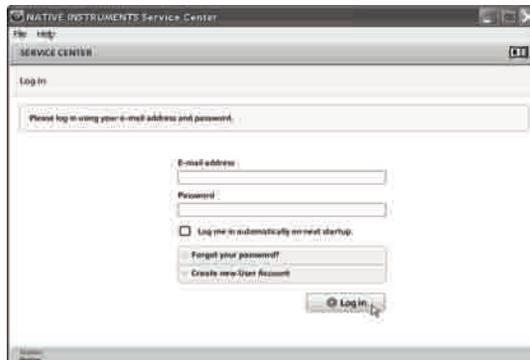

Figure 5.24
3. Please log in using your e-mail address and password and click **Log in**. (Figure 5.24)